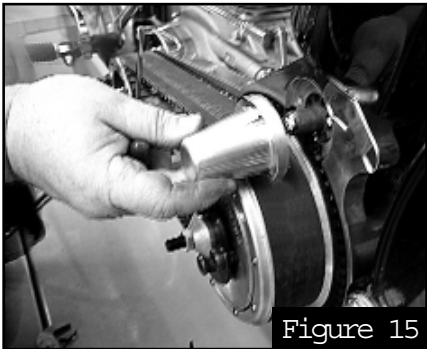

Figure 15
Step 13 Install starter support housing using (3 each) 10-24 x .500 socket head cap screws. Use 1 drop of blue threadlocker and tighten. (See figure 15)